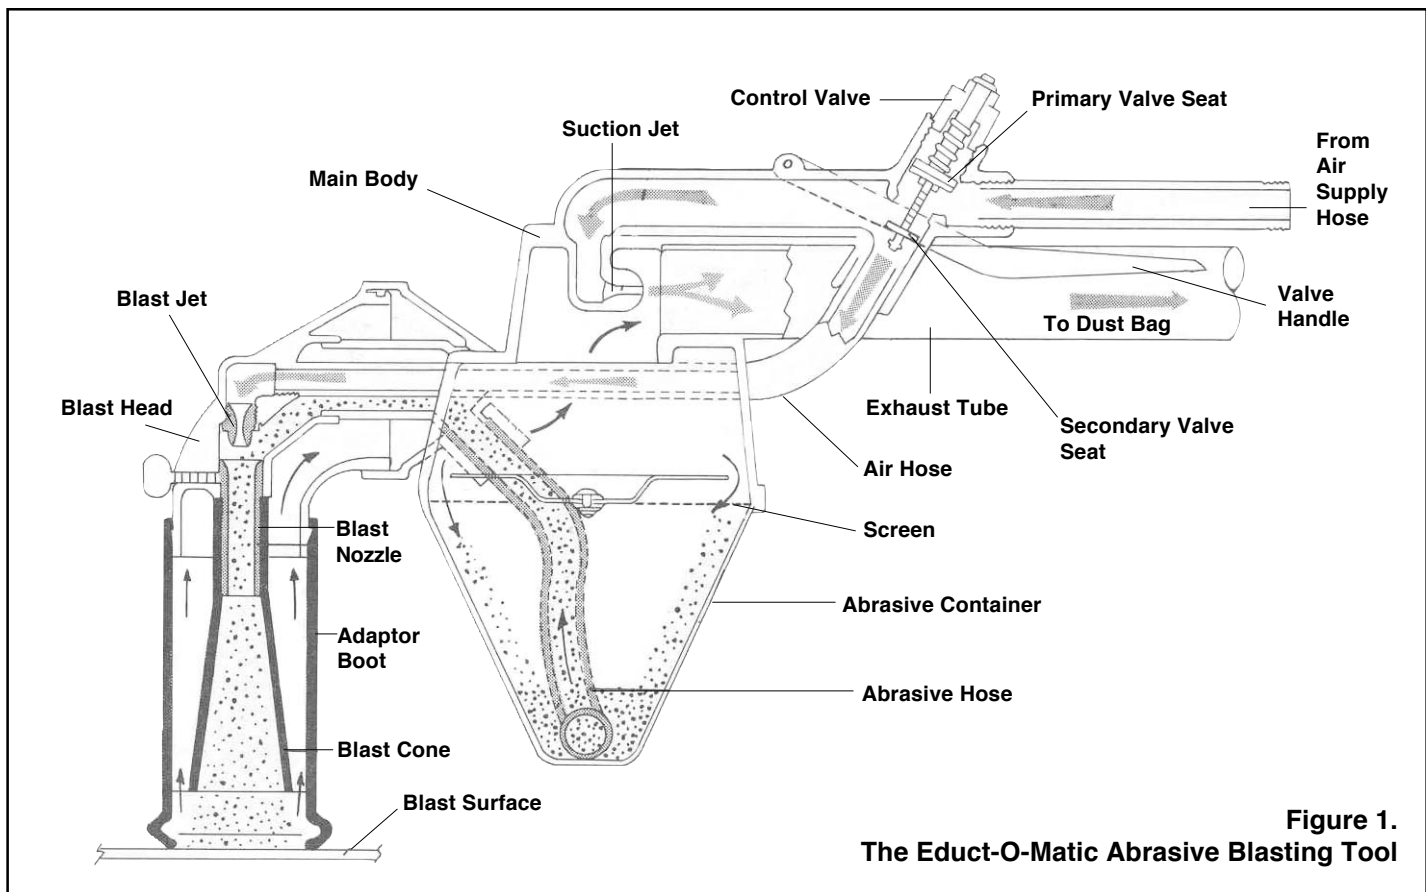

Figure 1.
1.2 Principles of Operation (Figure 1). When the dual-seated valve is fully open, compressed air entering the tool is split into two streams. The first rushes through the air hose to the blast jet. A partial vacuum is created in the blast head at the point where this air stream passes from the blast jet to the blast nozzle, and abrasive is drawn up to this point from the abrasive container via the abrasive hose. (This is the principle of eduction which gives the tool its name.) The air/abrasive mixture then passes through the nozzle and strikes the surface being blasted.
3.2 Dual Action of the Valve Handle. Note that the control valve (figure 1) has two seats. The first 3/16" of the valve handle's travel opens the primary seat only, and the Educt-O-Matic functions essentially like a vacuum cleaner. This is because the primary seat supplies air to the suction jet only. Squeezing the handle further opens the secondary seat as well. Air is supplied to the blast jet, and blasting begins.